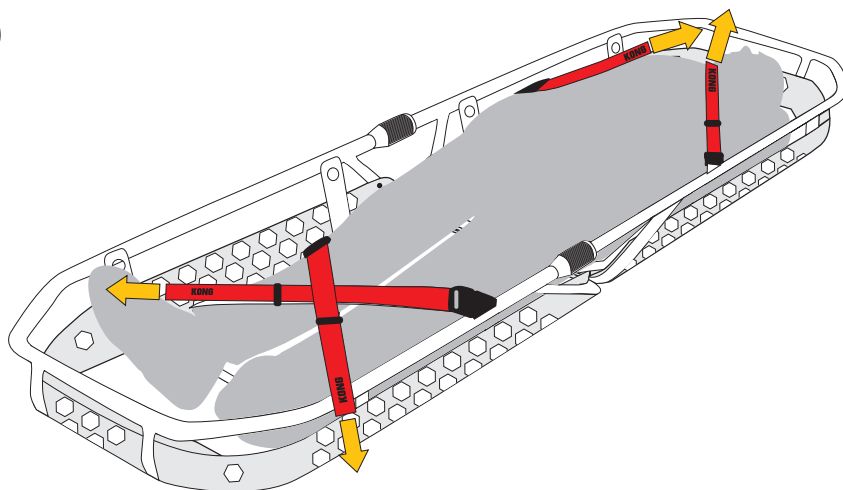

Fig.11
- b) lay the patient in the stretcher, hook on the buckles and tension the straps until they secure the patient (fig. 11).